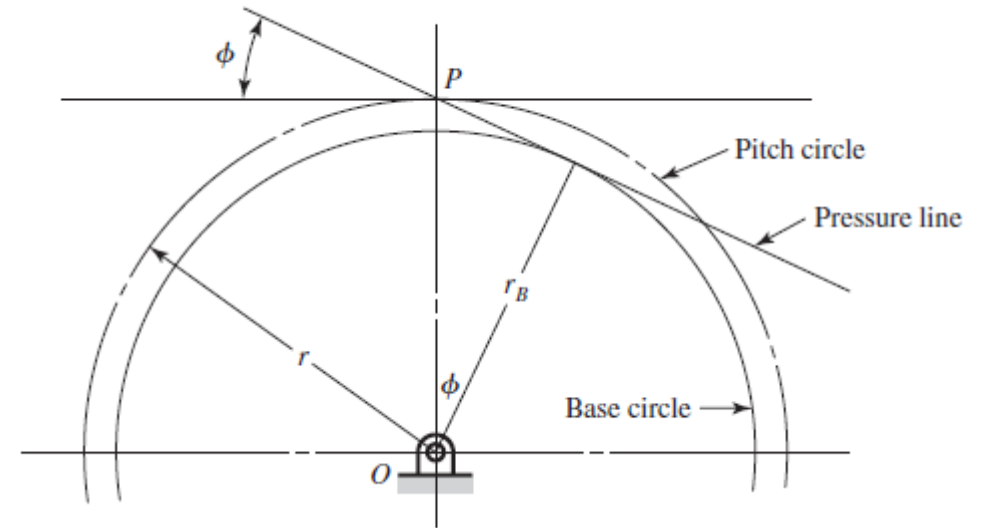

Figure 8-11 Pressure Angle  $\phi$  and the Pitch Circle Radius.
- Next, on each gear, draw a circle tangent to the pressure line. These circles are the *base circles* as illustrated in Figure 8-11.
- As shown in Fig. 8-11, the radius of the base circle is: